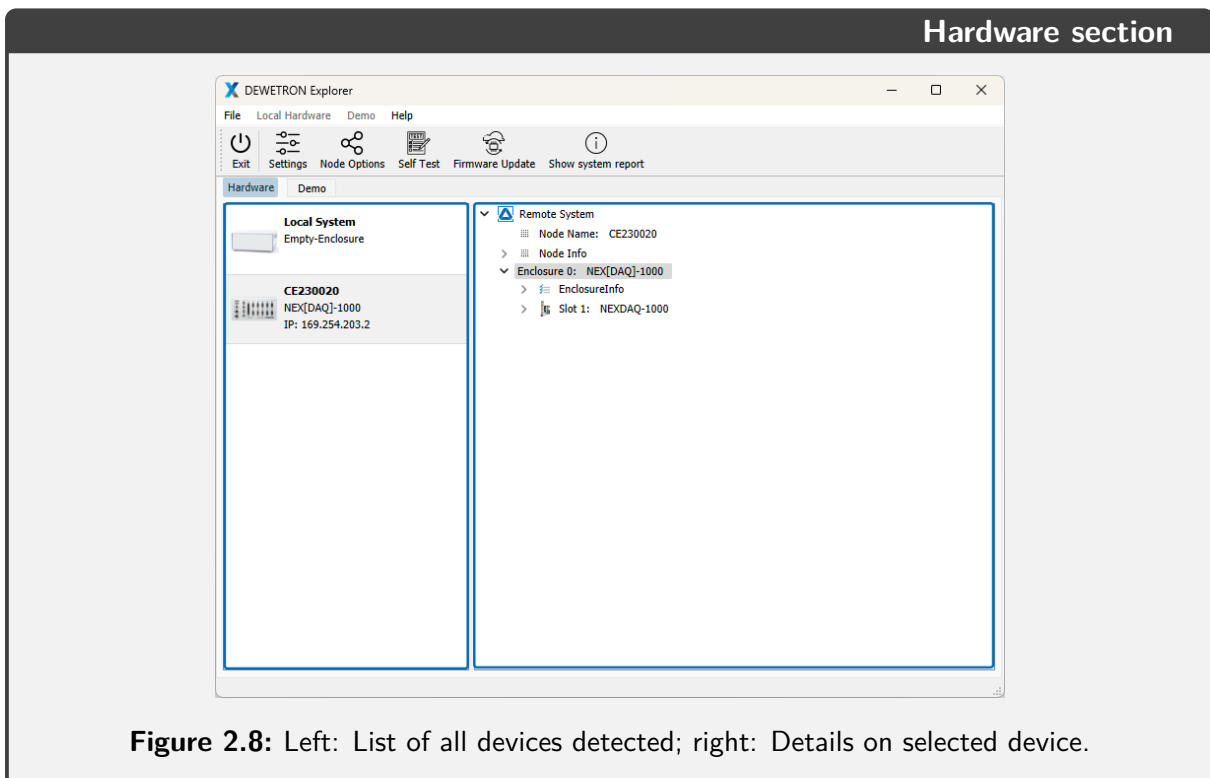

Figure 2.8: Left: List of all devices detected; right: Details on selected device.
Fig. 2.8 highlights the hardware section. The left panel displays all connected devices. In this case this includes the local system (PC) and a connected front-end system (NEX[DAQ]). The right panel displays detailed information about the selected device, such as system specifications, connected modules, and MSIs. Use the drop-down arrows to expand or minimize the displayed information.